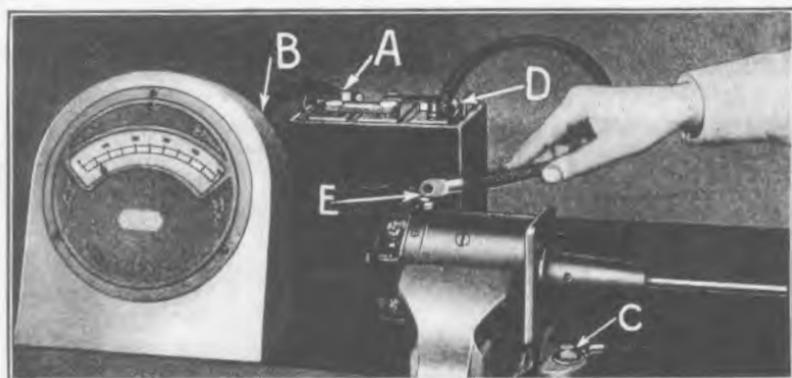

Fig. 518
- 1089 The starting motor is then placed in a vise, which is connected to a storage battery by means of a cable extending from the negative post on battery (See "A" Fig. 518), to ammeter "B" and to vise "C". The meter should have a range of from 0 to 500 amperes. A cable is then run from the positive terminal "D" on battery to starting motor terminal "E". When connected in this manner a charge of 50 to 75 amperes should register on the meter if starting motor is O. K.